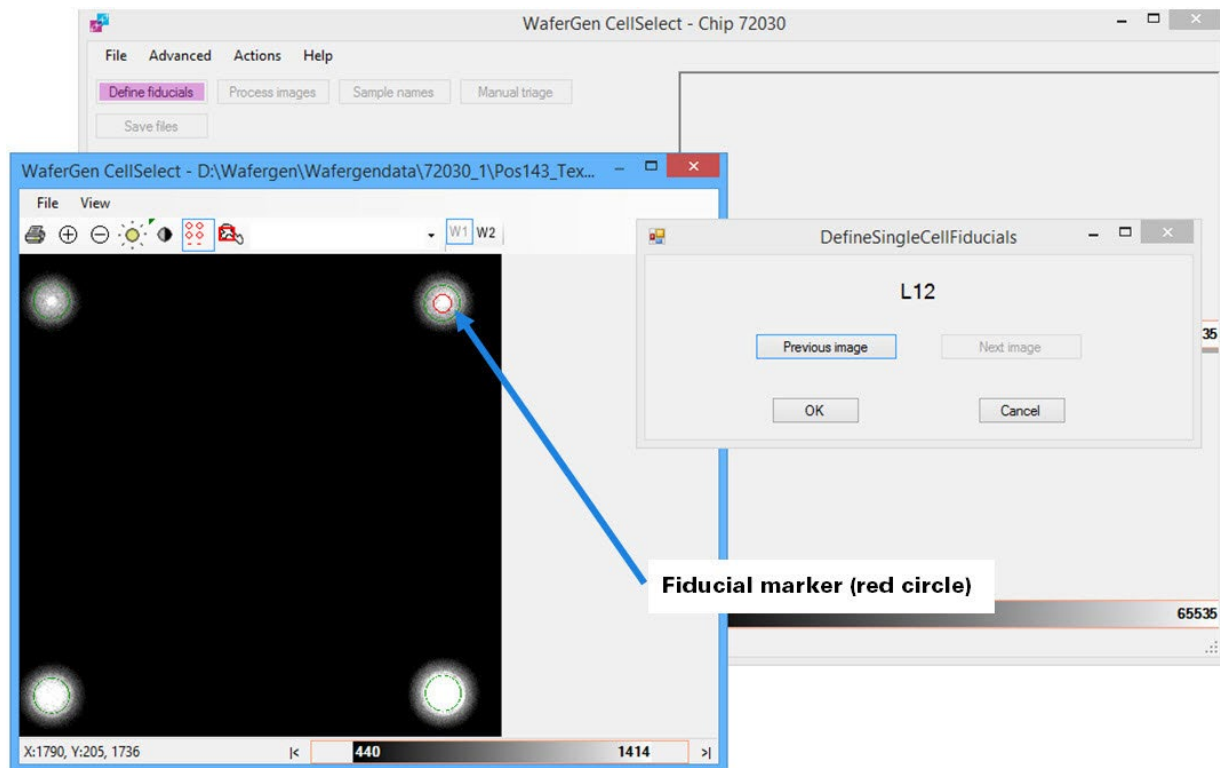

Figure 25. Inspecting and adjusting fiducials.
- a. Click and drag the *DefineSingleCellFiducials* prompt window to the side to view the fiducials image (see Figure 25, below).
- b. If the green circles are not centered properly, click on the nanowell centers with the mouse pointer (changes to red circle; see Figure 25, above).